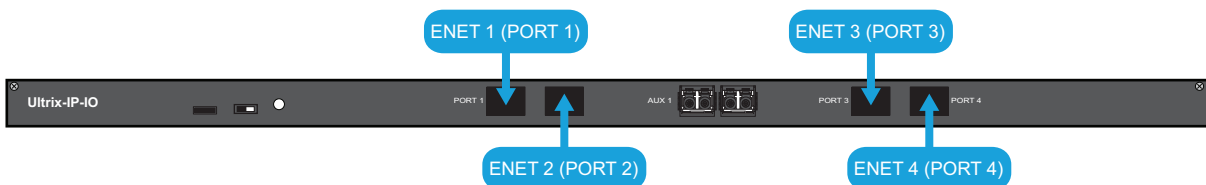

Figure 35 ULTRIX-IP-IO — PORT Connections
3. Cable your SFP+ module as required. (Figure 35)